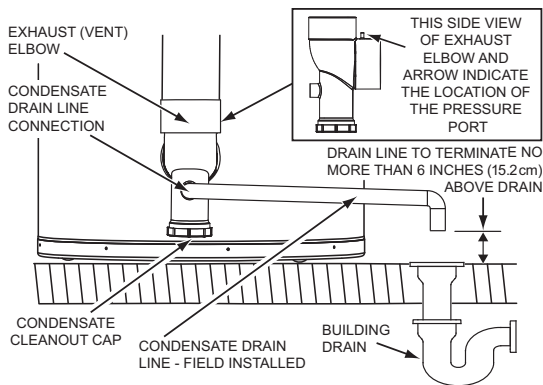

Figure 12
Condensate drains from the water heater at the exhaust elbow located at the bottom. The field installed condensate drain line must not be elevated above the condensate drain connection on the condensate trap, see Figure 12. If the condensate does not drain properly it will build up in the exhaust (vent) elbow. This will restrict the flow of flue gases and cause the Blocked Exhaust pressure switch to open its contacts. The control system monitors all pressure switches, if the Blocked Exhaust Switch contacts are open the control system will lock out and disable heating operation. The "Blocked Exhaust" Fault message will be displayed on the control system's LCD.
DO NOT remove the factory installed exhaust/condensate elbow for any reason, see Figure 12. The water heater's vent pipe is under a slight positive pressure while unit is in operation. The water trap inside of the exhaust/condensate elbow prevents flue gases from escaping into the installed space.
2. Install a 1/2 inch PVC condensate drain line between condensate drain connection on the Exhaust/Condensate Elbow and a suitable building drain with a slight downward slope to drain. The exhaust elbow has a "built in" condensate trap. Do not install an additional trap in the condensate drain piping. See Figure 12.
3. Terminate the condensate drain piping with an elbow above the drain. Ensure that any discharge will exit the condensate drain line no more than 6 inches (15.2 cm) above a suitable building drain, or external to the building, see Figure 12.
4. Ensure the condensate drain line is not elevated above the condensate drain connection on the Exhaust/Condensate Elbow, see Figure 12.